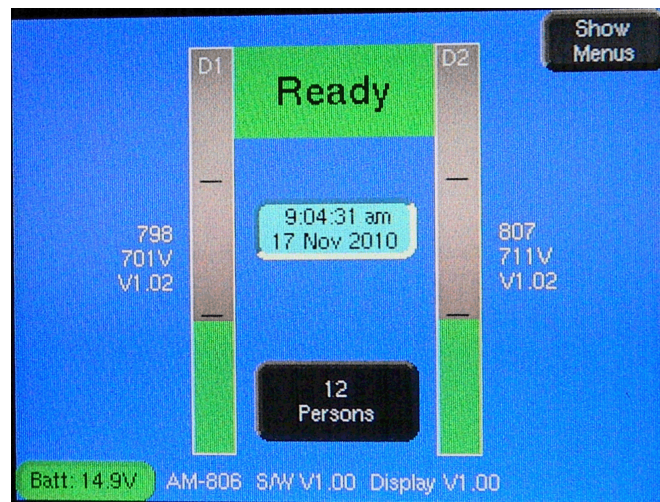

FIGURE 17
7.3.1.7 When the AM-806 completes the BACKGROUND INITIALIZATION the top block on the VGA monitor will show **READY** with a green background and with each detector (vertical block each side will display **GREEN** which indicates the radiation part of the system is ready for operation. **FIGURE 17** shows the 806 with a normal HOME screen.